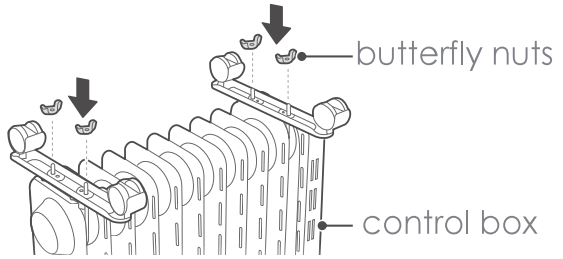

figure 2
03. As shown in figure 2, the castor assemblies are secured to the radiator using two butterfly nuts for each castor assembly. Tighten the butterfly nuts then turn the heater upright.